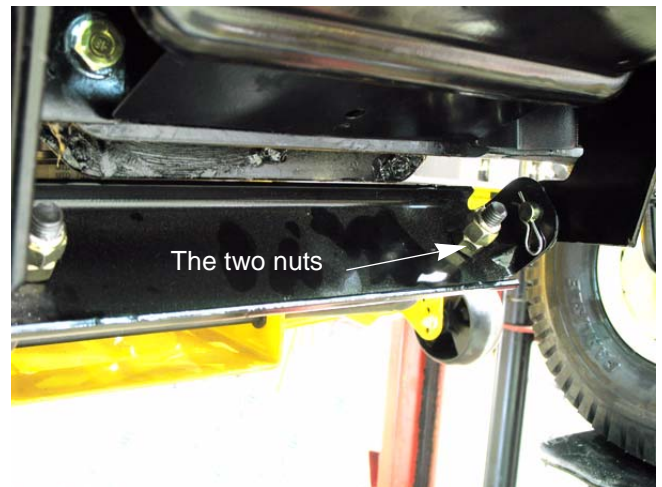

Figure 8.20
3. Working at the front of the tractor, loosen the two hex lock nuts at the front of the deck hanger rod. Thread the lock nuts away from the hex nuts behind them. See Figure 8.20.